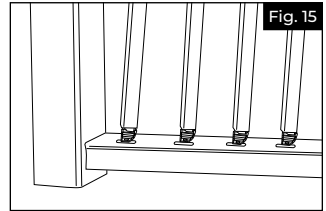

Fig. 15
- a. Insert a baluster (E) into each slot of the bottom rail (B) (Fig. 15). Baluster plugs are pre-installed in the baluster for easy assembly. Align the bottom baluster plugs in the same direction when installing the bottom rail. This will allow the balusters to lean in the same direction and help during installation of the top beam.